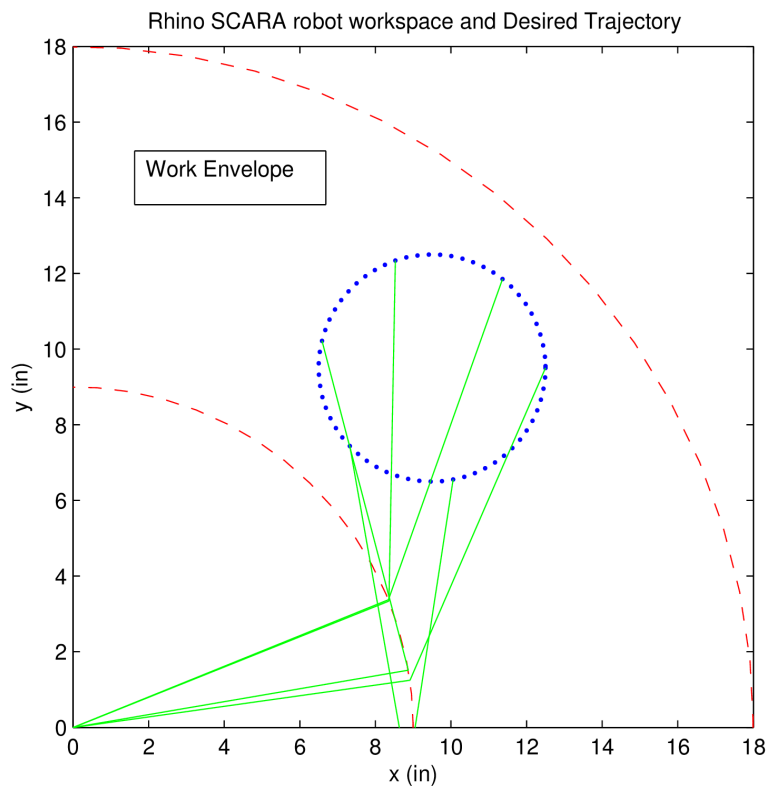

Figure 3. Desired Cartesian Trajectory.
It is desired that the robot gripper follows a specific path, as described in Figure 3. This figure shows the workspace of the Rhino robot according to the specifications on Table 1. The red dotted lines indicate the limits of the work envelope, i.e. inside and outside radius. The circle in blue indicates the desired trajectory of the gripper. Note that only two joints are required for this task (Motors “E” and “D”), however Motor “C” may need to be activated to lift up the gripper at least a 3 inches off the floor for a free travel of the robot arm. The green lines show sample positions for the two joints for different times during the trajectory (assuming that the length of the inner and the outer links are both 9”).
- A working prototype that demonstrates the use of the embedded control system for tracking the trajectory shown in Figure 3 with a Rhino SCARA robot.